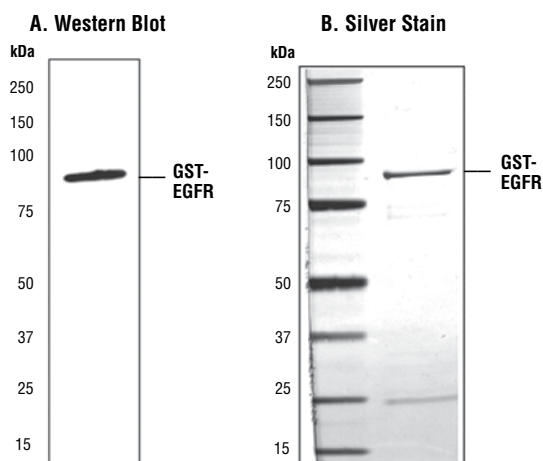

Figure 1. The purity of the GST-EGFR fusion protein was analyzed using SDS/PAGE followed by anti-EGFR Western blot (A) or Silver stain (B).
**Background:** Epidermal growth factor (EGF) receptor is a 170 kDa tyrosine kinase. Ligand binding results in receptor dimerization, autophosphorylation, activation of downstream signaling and lysosomal degradation (1,2). Phosphorylation of Tyr845 in the kinase domain may stabilize the activation loop, maintain the enzyme in an active state and provide a binding surface for substrate proteins (3,4). c-Src is involved in phosphorylation of Tyr845 (5). Phospho-tyrosine 992 is a direct binding site for the PLC- $\gamma$  SH2 domain, resulting in activation of PLC- $\gamma$ -mediated downstream signaling (6). Phosphorylation of Tyr1045 creates a major docking site for c-Cbl (7). Binding of c-Cbl to the activated EGFR leads to receptor ubiquitination and degradation (8). Phospho-Tyr1068 of activated EGFR is a direct binding site for Grb2 (9). Phospho-tyrosine 1148 and 1173 provide a docking site for SHC (2). Both sites are involved in activation of MAP kinase signaling. Phosphorylation of EGFR on serine and threonine residues attenuates EGFR kinase activity. Ser1046/1047 in the carboxy-terminal region of EGFR are sites phosphorylated by CaM kinase II. Mutations of Ser1046/1047 upregulate tyrosine autokinase activity of EGFR (10).
**Quality Control:** The theoretical molecular weight of the GST-EGFR fusion protein is 91 kDa. The purified kinase was quality controlled for purity using SDS-PAGE followed by Silver stain and Western blot [Fig.1]. EGFR kinase activity was determined using a radiometric assay [Fig.2]. A kinase dose dependency assay was performed to measure EGFR activity using HTScan™ EGF Receptor Kinase Assay Kit #7410 [Fig.3].